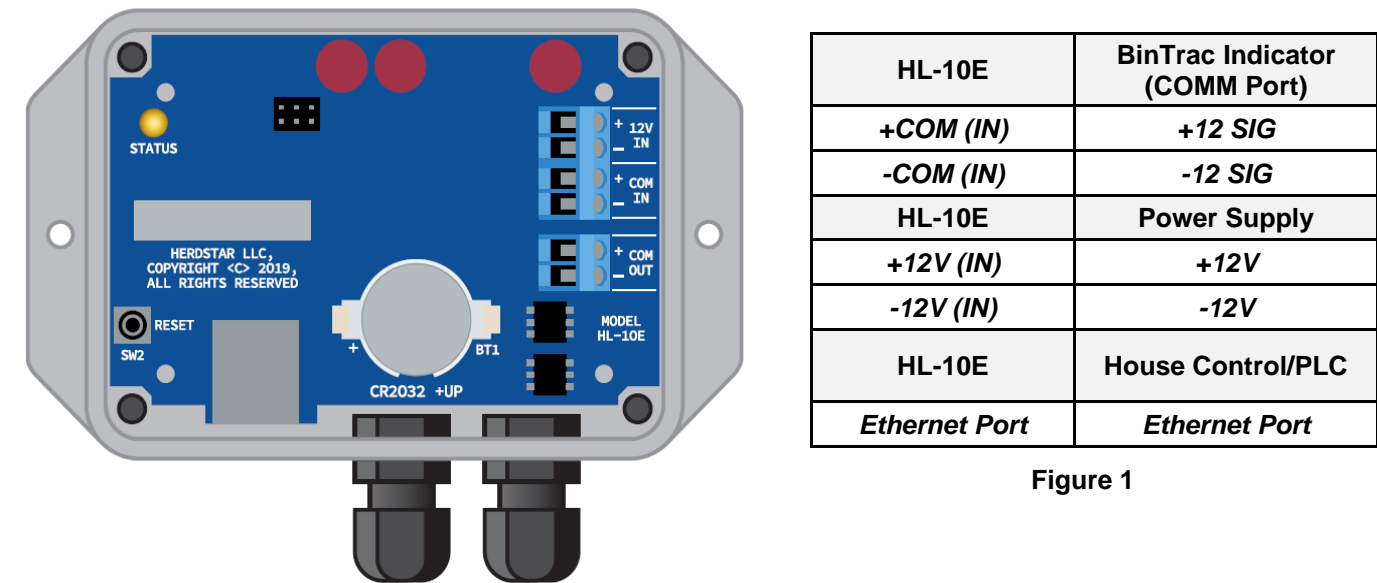
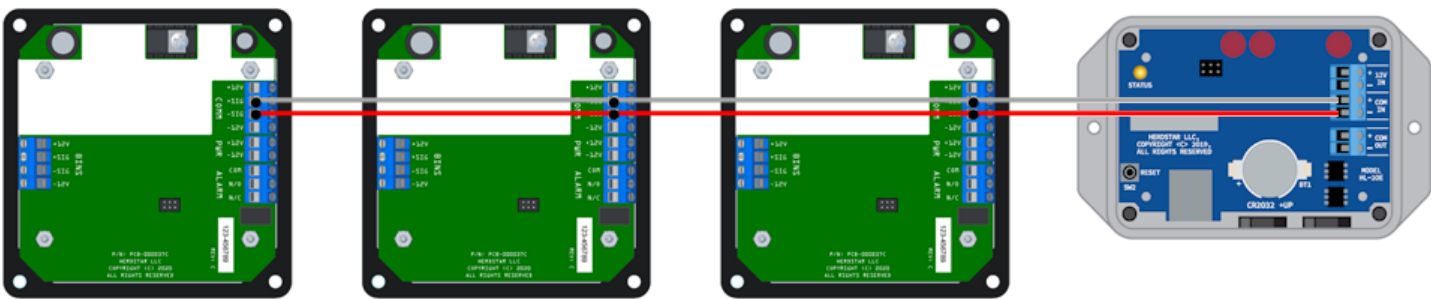

Figure 1
Figure 2
Step 2: Connect the +12V (IN) and -12V (IN) on the HL-10E to the provided power supply.
Step 3: The +COM (IN) and -COM (IN) on the HL-10E connect to the +SIG and -SIG on the COMM Port of the BinTrac Indicator (**Figure 1**). To add multiple BinTrac Indicators, connect them to each other on the +SIG and -SIG on the COMM Port (**Figure 2**).